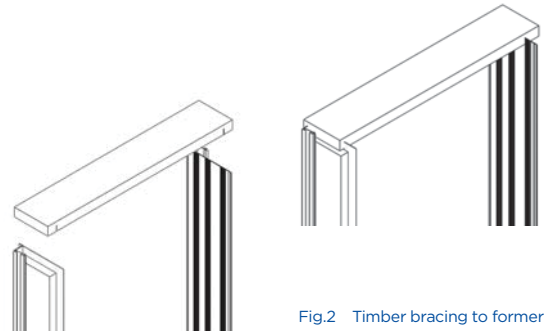

Fig.2 Timber bracing to former
- In first fix application the cavity closer should be nailed to the jamb/sill of the door or window frame and the whole assembly built in as work proceeds. Alternatively the closer can be built in sections using fixing ties as work proceeds or pre built to act as an opening former by using a timber brace (see fig.2)